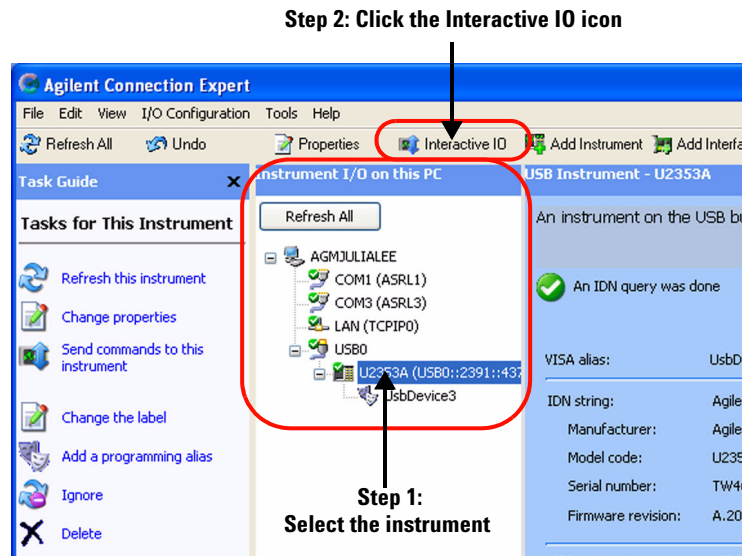

Figure 2-7 Launch the Interactive IO in Agilent Connection Expert
- 3 Connect the DAQ device to the PC with mini-B type USB cable. The connected DAQ device will be visible in the **Instrument I/O on this PC** panel as illustrated in Figure 2-7.
- 4 Select the DAQ device that you wish to send the SCPI commands to and then click the **Interactive IO** icon on the toolbar to launch the Agilent Interactive IO. See Figure 2-7.